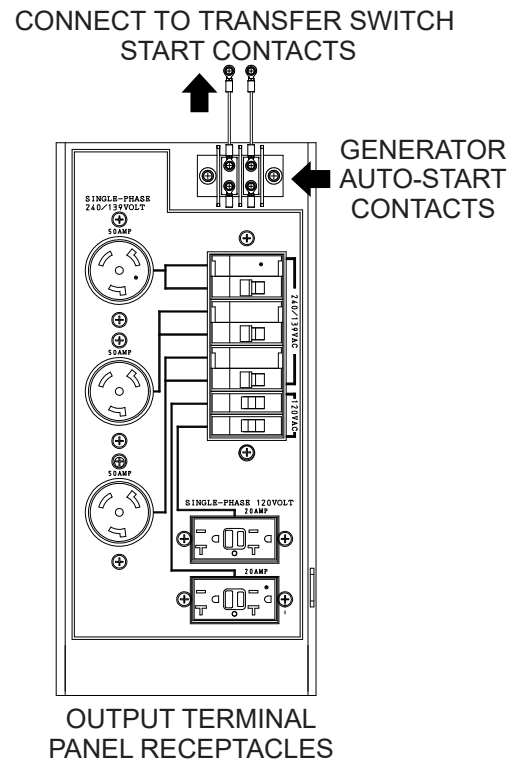

Figure 168. Auto-Start Contacts
- When the generator is connected to a building's AC power source via an **automatic** transfer switch (ATS), and the building's power has been interrupted (power outage), the ATS will start the generator automatically via the generator's auto-start contacts connected to the ATS's start contacts (Figure 168). If the generator is connected via a **manual** transfer switch (MTS), close the switch manually to start the generator.